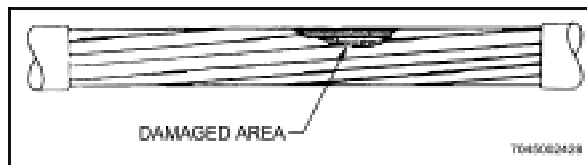

Figure 5-9 Damage Assessment
- d. Remove jacket to gain access to damaged wires (Figure 5-9).